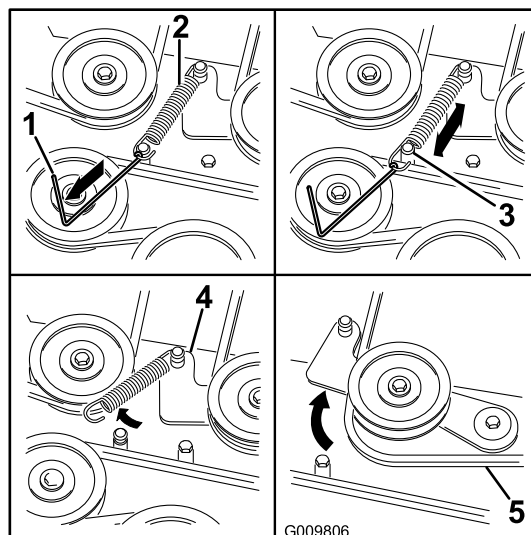

Figure 73
- Using a spring removal tool, (Toro part no. 92-5771), remove the idler spring from the deck post to remove tension on the idler pulley (Figure 73).
- Install the new belt around the mower pulleys and the clutch pulley under the engine (Figure 73).
- Using a spring removal tool, (Toro part no. 92-5771), install the idler spring over the deck post and placing tension on the idler pulley and mower belt (Figure 73).